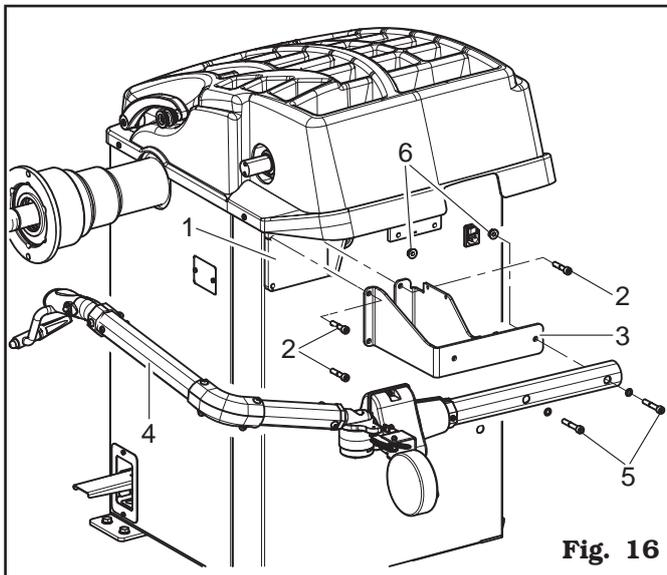
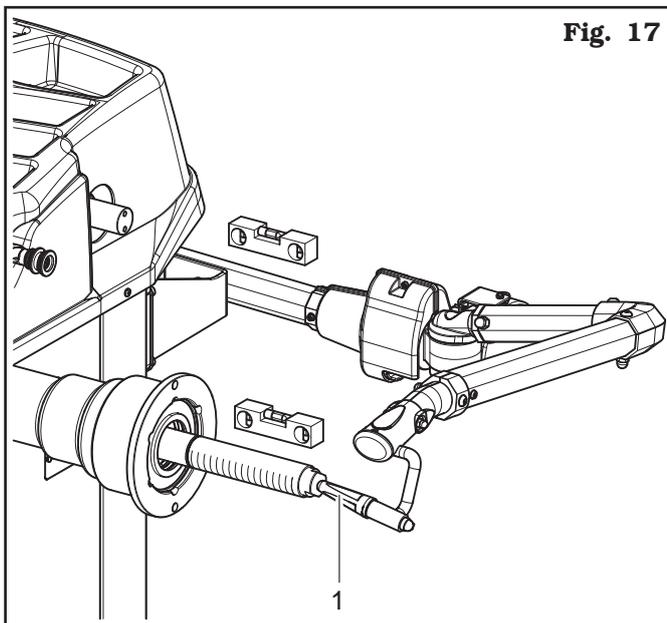

Fig. 16
Fig. 17
1. Unscrew the fastening screws of the equalizer's support (**Fig. 16 ref. 1**), being very careful about holding the same support.
2. Screw the 3 screws (**Fig. 16 ref. 2**) to the gauge bracket (**Fig. 16 ref. 3**) and in the special inserts placed on the rear side of the frame. Lock the gauge arm (**Fig. 16 ref. 4**) by screwing the 2 screws provided (**Fig. 16 ref. 5**). Lock these screws with the nuts (**Fig. 16 ref. 6**), so that the mandrel and the gauge arm are levelled out (see **Fig. 17**).
3. Also make sure the gauge tip (**Fig. 17 ref. 1**) is positioned at the centre of the mandrel.